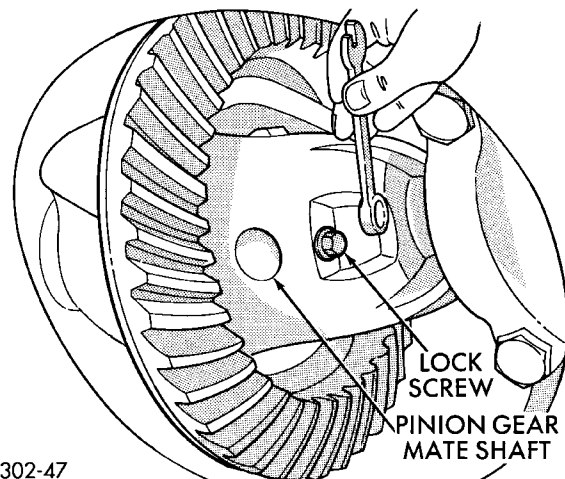
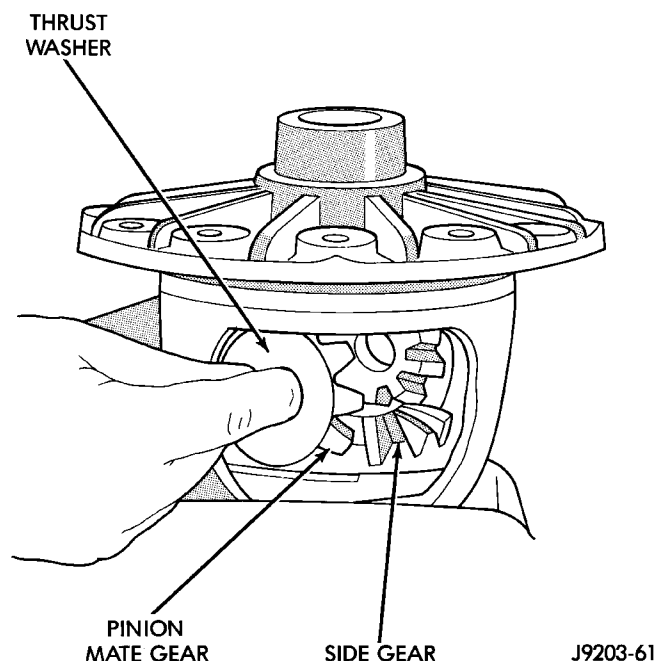

Fig. 52 Pinion Gear Mate Shaft Lock Screw
Fig. 53 Pinion Mate Gear Removal
(1) Remove pinion gear mate shaft lock screw (Fig. 52).
(2) Remove pinion gear mate shaft.
(3) Rotate the differential side gears and remove the pinion mate gears and thrust washers (Fig. 53).
(4) Remove the differential side gears and thrust washers.